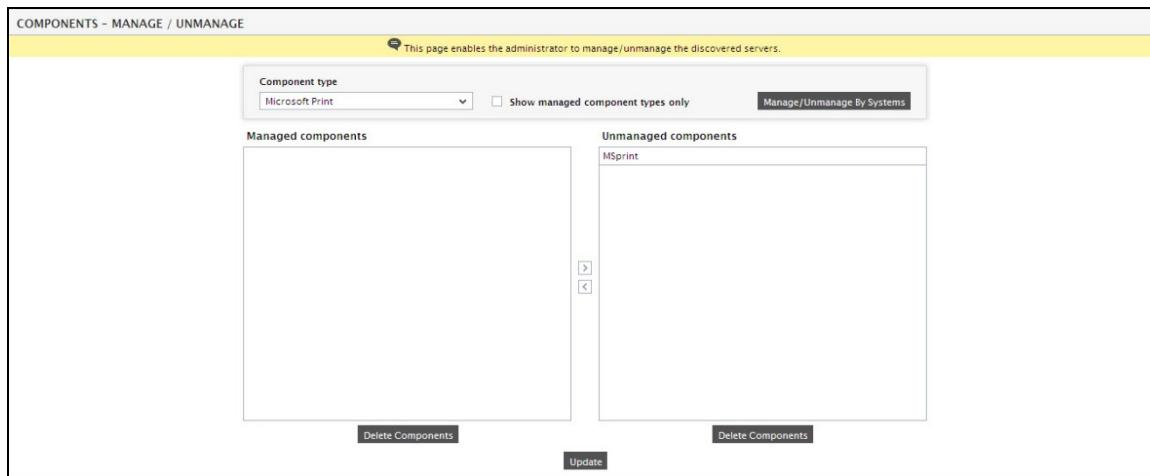
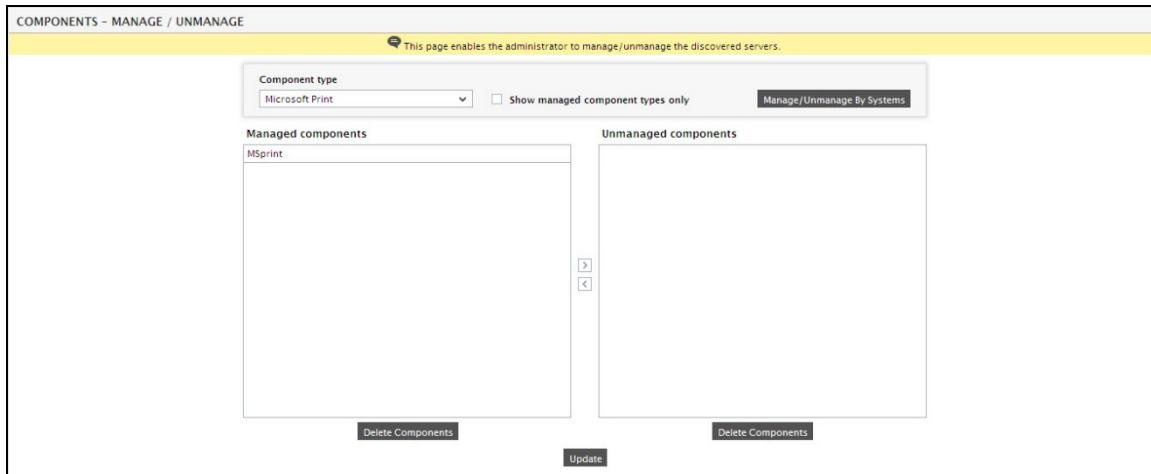

Figure 2.1: Viewing the list of unmanaged Microsoft Print servers
Figure 2.2: Managing an Microsoft Print server
2. If an Microsoft Print server is already discovered, then directly proceed towards managing it using the **COMPONENTS - MANAGE/UNMANAGE** page (Infrastructure -> Components -> Manage/Unmanage). However, if it is yet to be discovered, then run discovery (Infrastructure -> Components -> Discover) to get it discovered or add the MS Print server manually using the **COMPONENTS** page (Infrastructure -> Components -> Add/Modify). Remember that components manually added are managed automatically. Discovered components, however, are managed using the **COMPONENTS - MANAGE/UNMANAGE** page. Figure 2.1 and Figure 2.2 clearly illustrate the process of managing an Microsoft Print server.